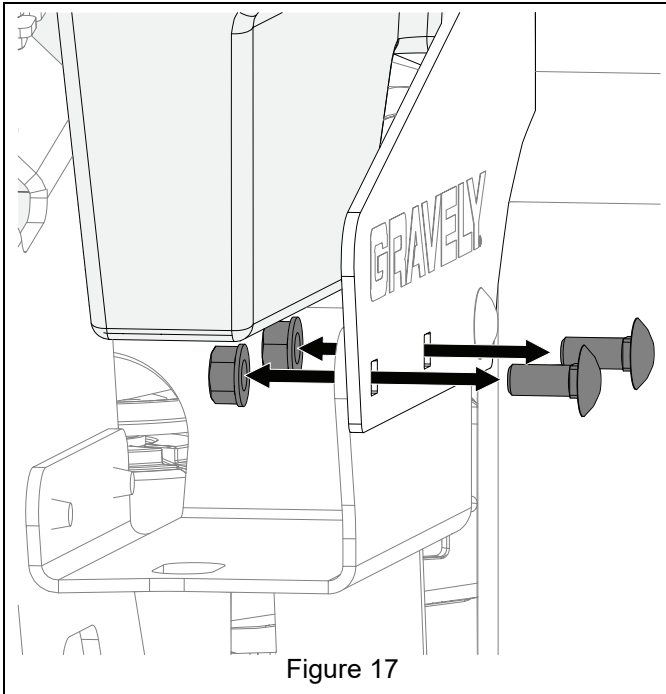

Figure 17
22. Remove and discard rear and center 5/16" x 3/4" round head square neck bolts and locking nuts retaining right-side fuel tank bracket. Lift, but DO NOT remove the fuel tank to gain access to the lock nuts. See Figure 17.